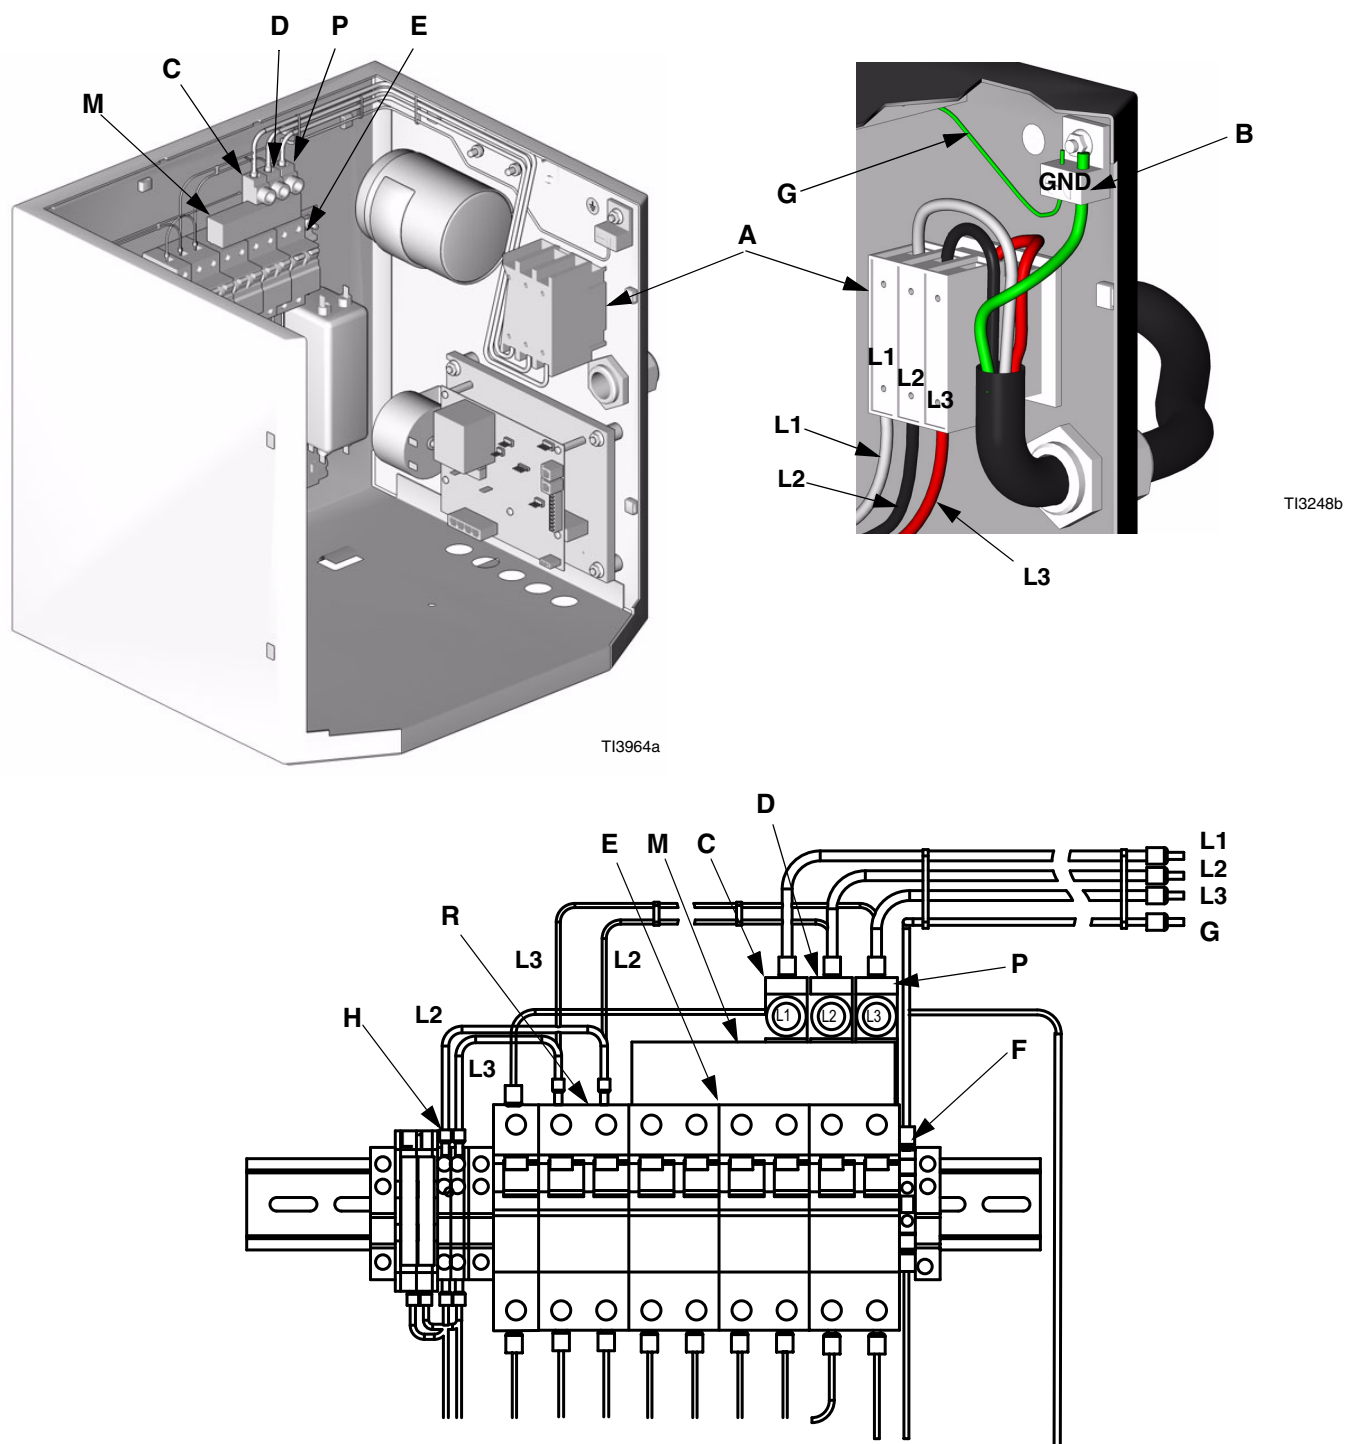

FIG. 2. Install 3 Phase Hardware and Wire Harness
1. See FIG. 2 on page 4. Plug 3 phase buss bar (M) into circuit breaker module (E).
2. Plug connectors (C, D) retained from disassembly into buss bar (M) as shown. Plug connector (P) included in kit into buss bar.
3. Using a flat blade screw driver, connect wire harness (L1, L2, L3) to connectors (C, D, P). Connect wire harness ground wire (G) to ground terminal (F) at right of circuit breaker module (E).
4. Connect first pair of jumper wires (L2, L3) to Transformer Primary 20A circuit breaker (R). Connect second pair of jumper wires (L2, L3) to terminal block (H) at left of circuit breaker module (E). See FIG. 2 on page 4.
5. Using 5/32 or 4 mm hex allen wrench, connect wire harness (L1, L2, L3) to disconnect switch (A).
6. Route wire harness ground wire (G) over top of disconnect switch (A) and connect to ground terminal (B).